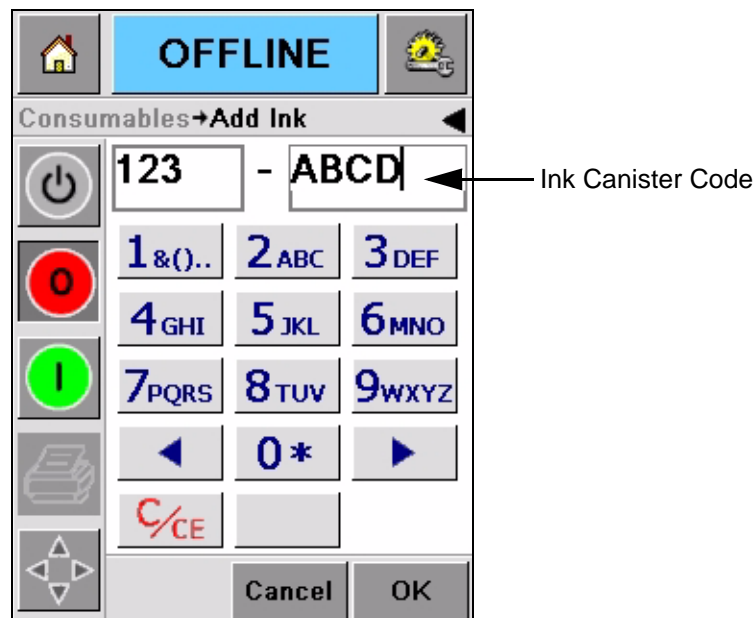

Figure 4-10: Canister Code
- 4 Enter the unique ink canister code found on the label of every ink canister (Figure 4-10) and touch the OK icon.